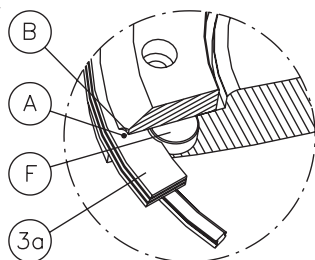

FIGURE 6
11. Replace seal ring (3a) on the disc through the shaft side of the body. To properly locate the seal ring refer to figure 6: align the internal slot of the seal ring (3a) to the reference pin (F).
12. Assemble the seal retainer flange (2b). Refer to figure 6: make sure that the slot on the edge of the seal retainer flange (B) is in correspondence with reference pin (F).
17. Open the disc a few degrees and tighten, using a torque wrench, all screws (2c). Use a torque value from Table 2 (refer to figure 6). It is recommended to use a cross-pattern tightening sequence to tighten all retaining screws.
Refer to figure 6: